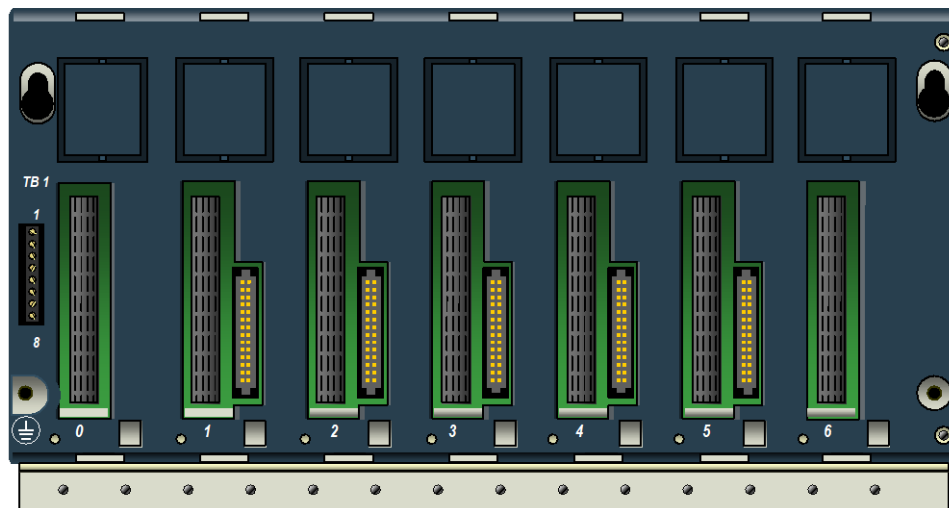

Figure 1: IC695CHS007 Universal Backplane showing slots 0 through 6
Slot 0, the slot furthest to the left (Figure 1), supports the IC695 power supply only. Slots 1–5 support both PCI-based and serial backplane modules. Slot 6 provides a PCI connector only and can therefore only accept IC695 single-width modules.
- Terminal Strip on the left end (Figure 1) for Isolated +24V input